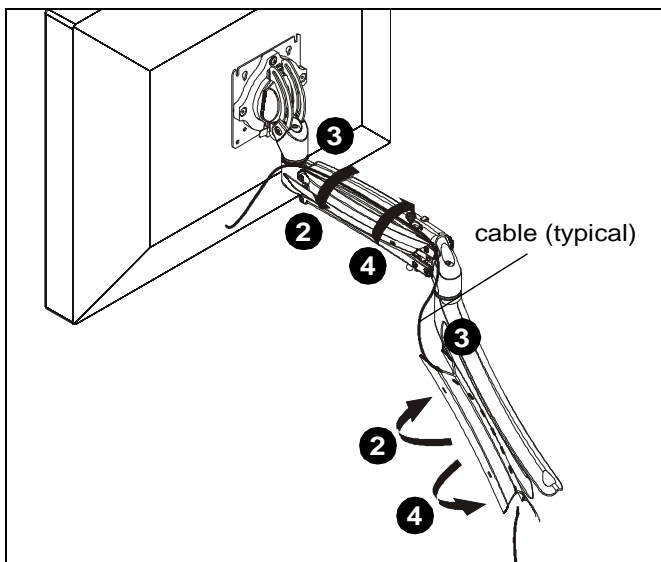

Figure 14
4. Close cable management covers on monitor arm. (See Figure 14)
3. Route cables through cable management channels. (See Figure 14)